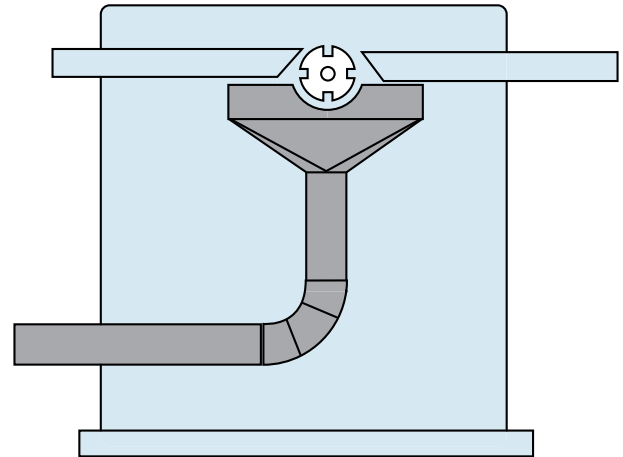

FIG. 34a
- a. Rectangular Hoods are well suited for collecting dust from a wide, narrow area such as jointers, planers, belt sanders, drum sanders, rip saws, etc. [FIG. 34a].